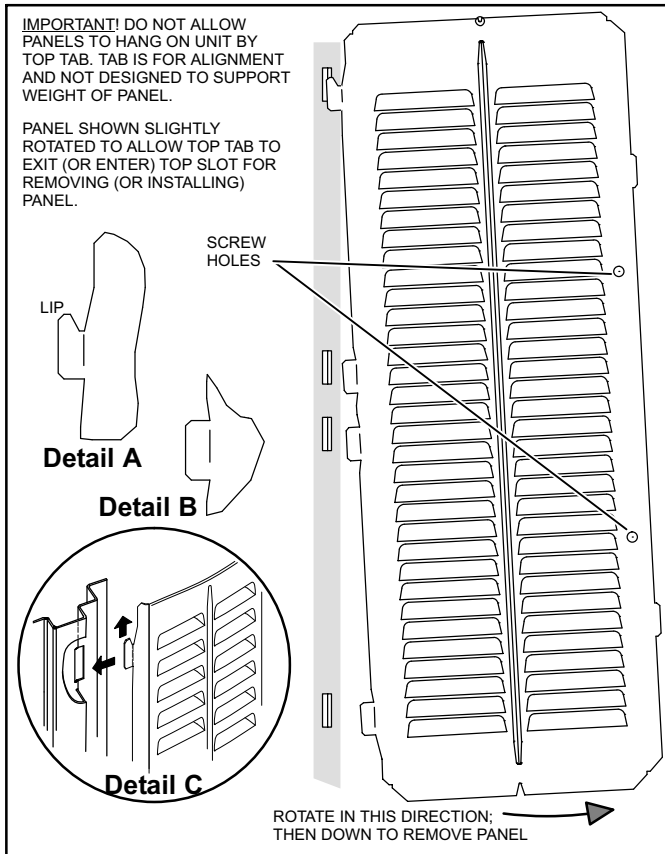

Figure 12. Removing/Installing Louvered Panels (Detail A, B and C)
2. **Hold the panel firmly throughout this procedure.** Rotate bottom corner of panel away from hinged corner post until lower three tabs clear the slots as illustrated in figure 12, detail B.
3. Move panel down until lip of upper tab clears the top slot in corner post as illustrated in figure 12, detail A.
- Slightly rotate and guide the lip of top tab inward as illustrated in figure 12, details A and C; then upward into the top slot of the hinge corner post.